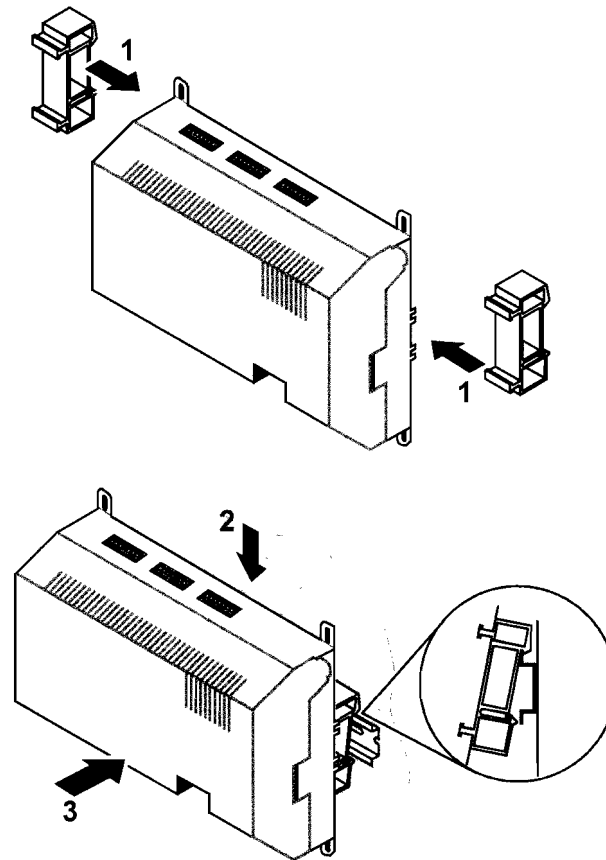

Fig. 8. Mounting on a DIN rail
3. Attach the DIN rail mounting clips (available in 20-piece bulk packages; order no.: XL40ACC1) at the housing as is shown in Fig. 8.